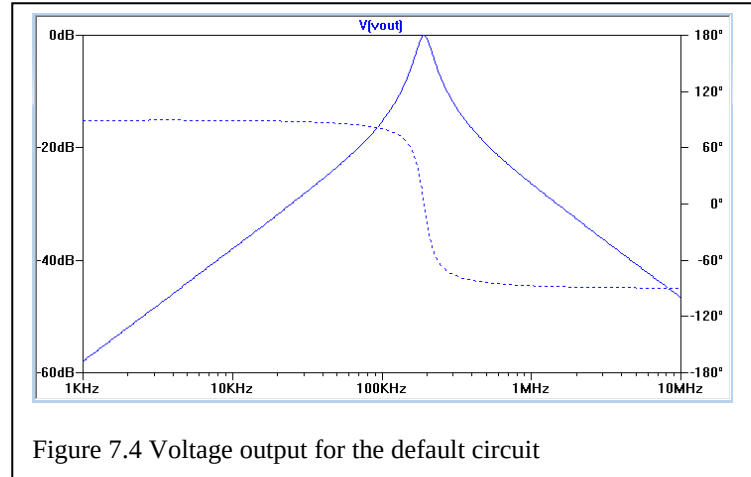

Figure 7.4 Voltage output for the default circuit
- After simulation, your output should appear as in Figure 7.4.